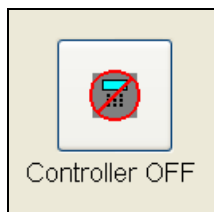

Figure 6.7.1
2. From the List of icons to the right of the “**Speed Communications**” screen select the **Controller OFF** Icon (Figure 6.7.1).